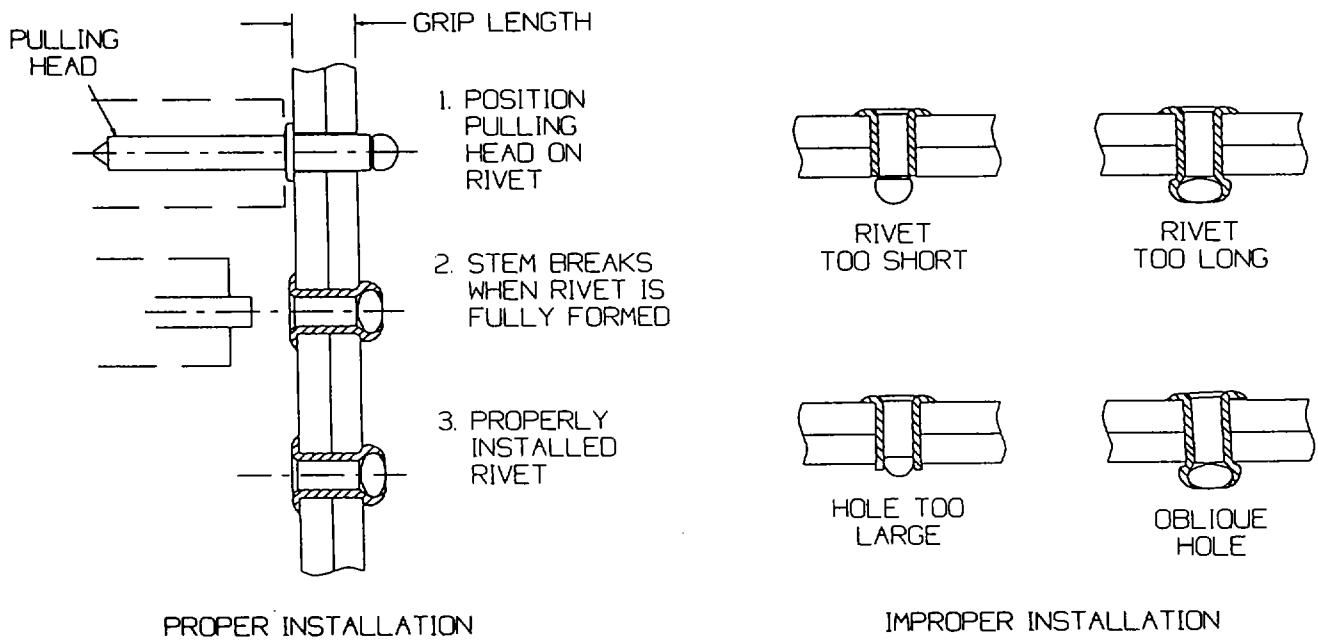

Figure 5-2. Rivet Installation
(1) Installation. (Figure 5-2).